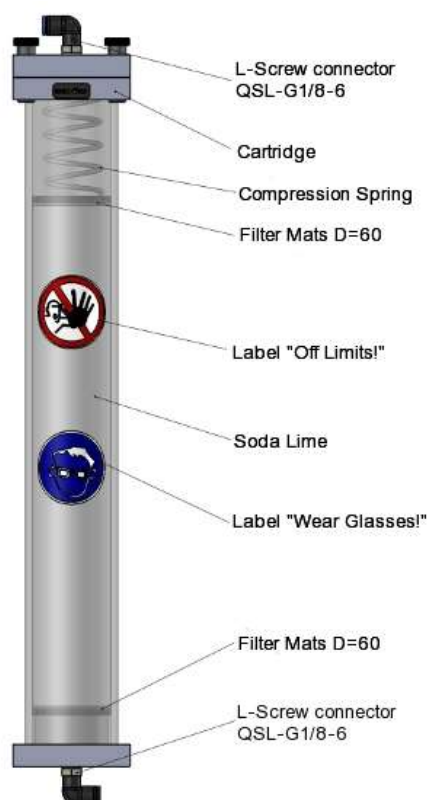

Fig. 137: Soda Lime Cartridge
4. Carefully open the filter cartridge from the top. Mind out for the spring in the filter cartridge (Fig. 137, page 213).
8. Place the following components onto the soda lime pellets in this order - the filter mats, the perforated disc, the spring and the O-ring into the groove of the filter cartridge. (Fig. 137,